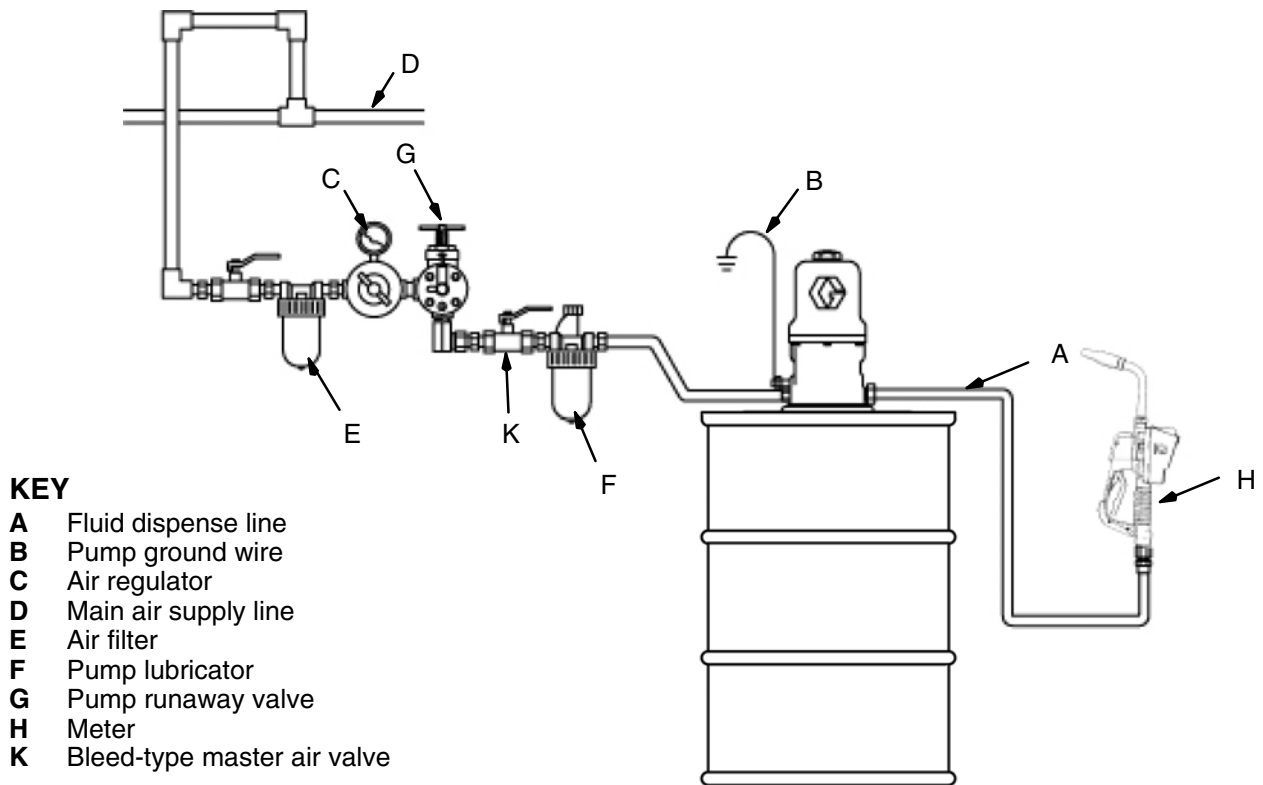

Fig. 2
The typical installation shown in Fig. 2 is only an installation guide; it is not an actual system design. Contact your Graco distributor for assistance in designing a system to suit your needs.
**NOTE:** Install the accessories in the order shown in Fig. 2 on page 5.